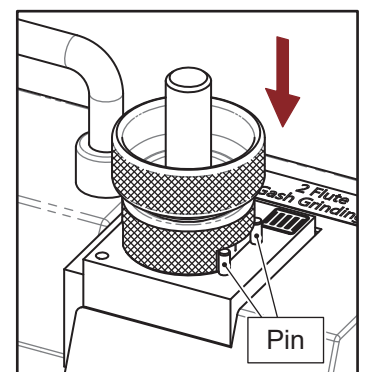

Fig. 11-3
3. 2 Flute End Gash Grinding (IIII) (Fig. 11-3)